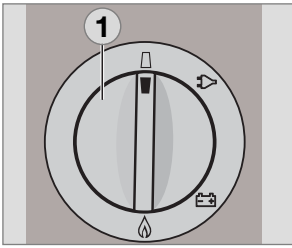

Fig. 37
- For battery igniter models, set the energy selector switch **(1)** to position "**OFF**". The appliance is switched off (Fig. 37).